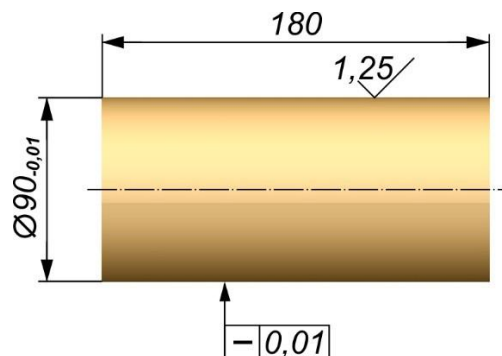

Fig. 3.45. Special-purpose mandrel #2
- install special mandrel #2 (Fig. 3.45) in the reduction gear case sockets for differential bearings, install and fasten differential bearing covers;